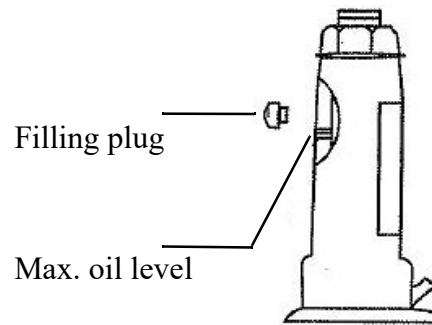

Fig. 7: Refill of the hydraulic oil
Step 4: Fill the cylinder with high-quality hydraulic oil up to the lower edge of the filling opening. (see Fig.7)